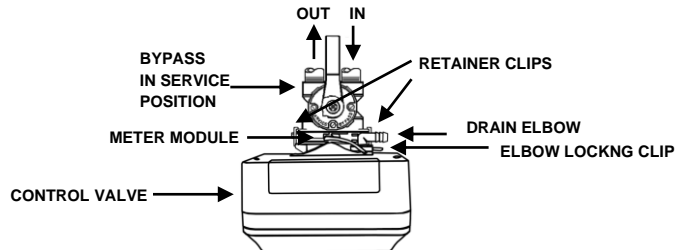

FIGURE 2: Top View of Control Valve
- STEP 2:** Use clips and screws provided and attach bypass valve to the inlet/outlet of the control valve. See Figure 2 below.